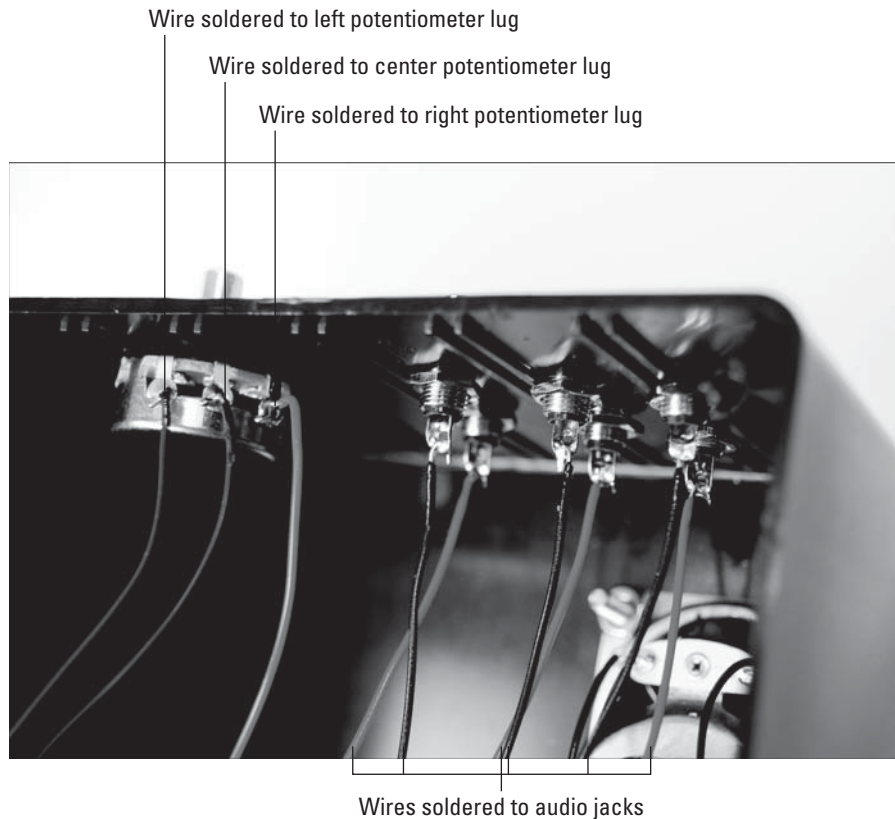

Figure 7-14:
- 7. Solder an 8" wire to each of the three potentiometer lugs, as shown in Figure 7-14.**
- 8. Connect 8" wires to each of the audio jacks and solder them, as shown in Figure 7-14.**